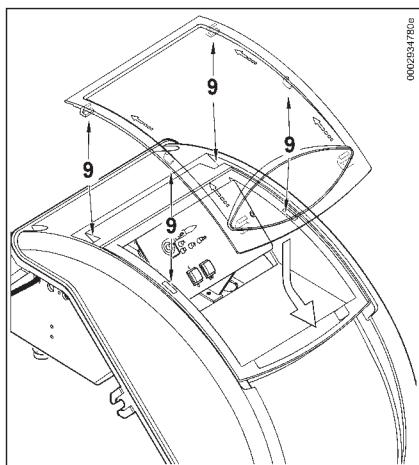

Figure 5
- To properly position the transparent door on the panel (fig. 5) proceed positioning the hooks in their hooking points and (9), slide the door in the direction indicated by the arrow until it clicks. It is now well sealed.